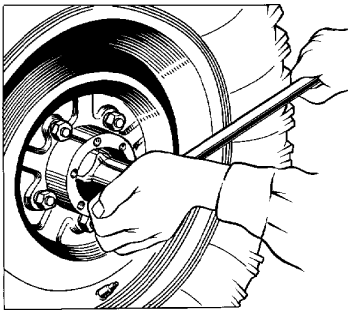

Fig. 61. Adjustment of Hub Bearings
6. Tighten the adjusting nut of the hub bearings with the aid of a wrench applying a hand effort to the wrench tommy bar 300-350 mm long until the wheel is rotated with difficulty (Fig. 61). When tightening the nut, apply the effort to the tommy bar smoothly without jerks and simultaneously rotate the wheel to allow the roller to assume correct position on races of the bearings.